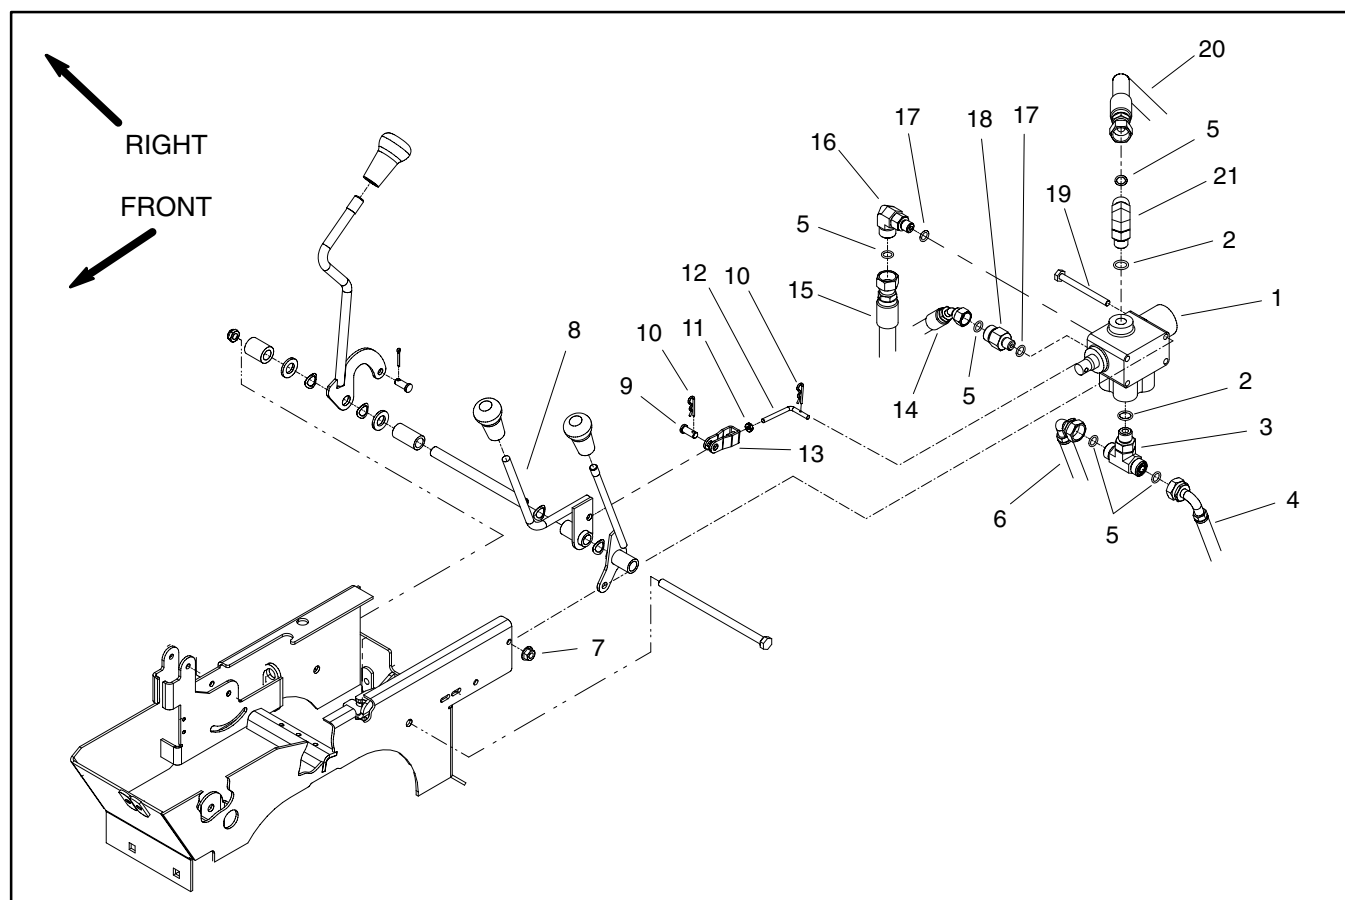
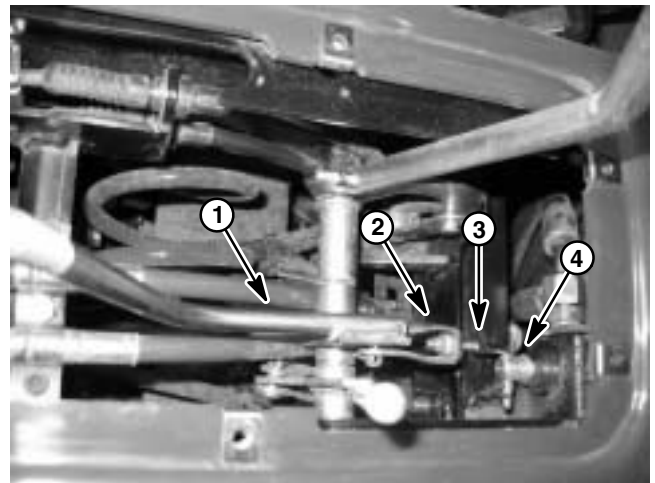

Figure 24
Figure 25
Removal (Fig. 24)
5. Remove lift valve from vehicle using Figure 24 as a guide.
Installation (Fig. 24)
1. Install lift valve to vehicle using Figure 24 as a guide. Make sure that lift lever can be moved in control plate slot to allow correct operation of lift lock. Readjust location of clevis on link rod if needed (Fig. 25).